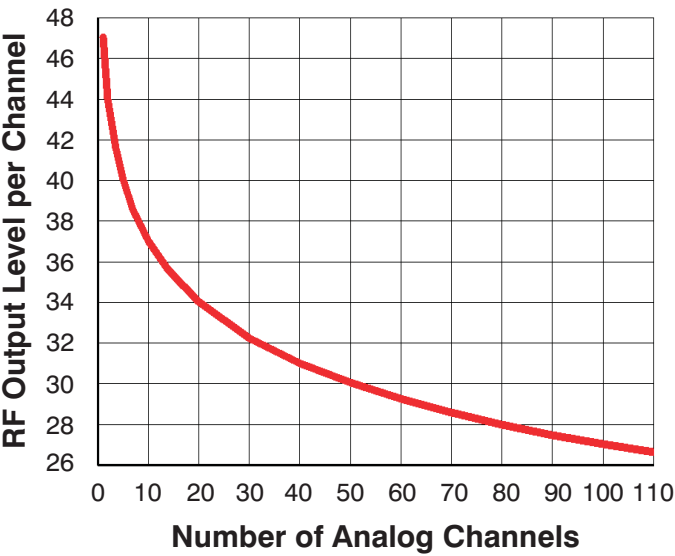

Figure 1.3 Recommended Maximum RF Output Level vs. Channel Loading
- 3) In most applications, the 2808 will be used with a channel loading of 80 analog channels or 80/30 analog/digital channel loads. It is under those conditions that the +28 dBmV output level per channel is specified. Figure 1.3 shows the recommended maximum RF output level per channel for analog channel loadings from 1 to 110. At 110 analog channels, the maximum RF output level per channel is about 26.5 dBmV. For ten analog channel loading, the RF level per channel increases to 36.5 dBmV.